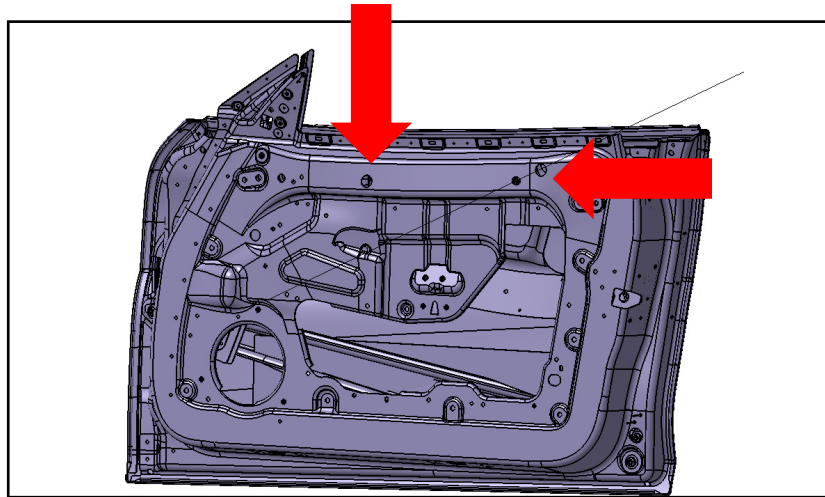

fig 7a
- 5) Check the upper regulator mounts for shims- if required remove shims to check adjustment this may be sufficient (fig 7a). However verify that glass movement speed, up and down in the channel is not affected, as the glass may now contact the seal and create some drag. You may find one (1) or (2) shims in each position, trial should first be done removing 1 shim and checking glass to B pillar flushness and for satisfactory glass speed, if this is still unsatisfactory remove the second shim and recheck.